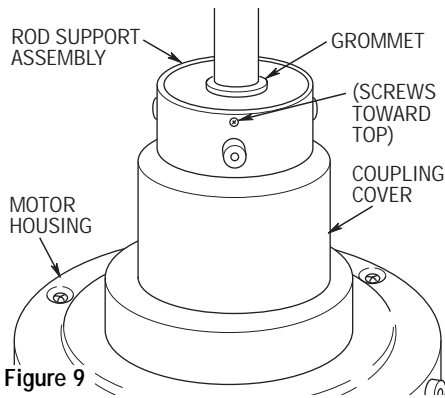

Figure 9
- 13. Make sure the grommet is properly installed in the coupling cover, then slide the coupling cover over the downrod until it rests on the motor housing. (Figure 9).
- 14. Make sure the grommets are properly installed in the rod support assembly. Then position the three screws in the rod support toward the top, and slide the rod support over the downrod (Figure 9).